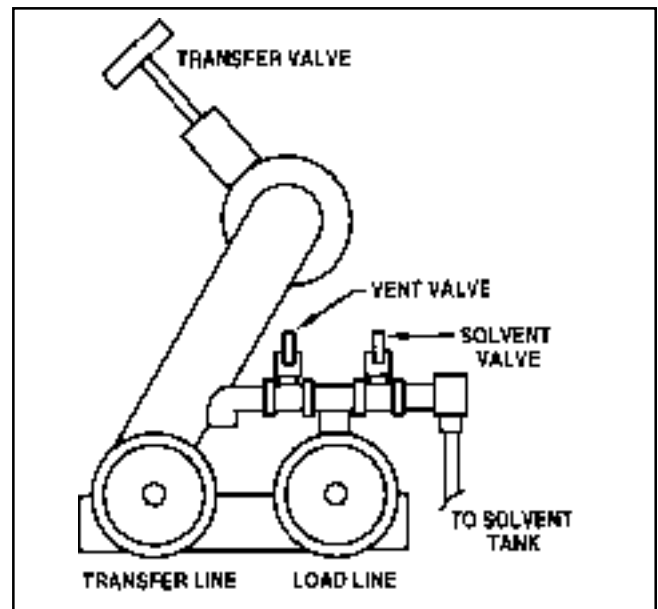

FIGURE 19 - Transfer Line & Load Line
3. Close the Transfer Valve (Figure 19) and remove the Transfer Line cap.